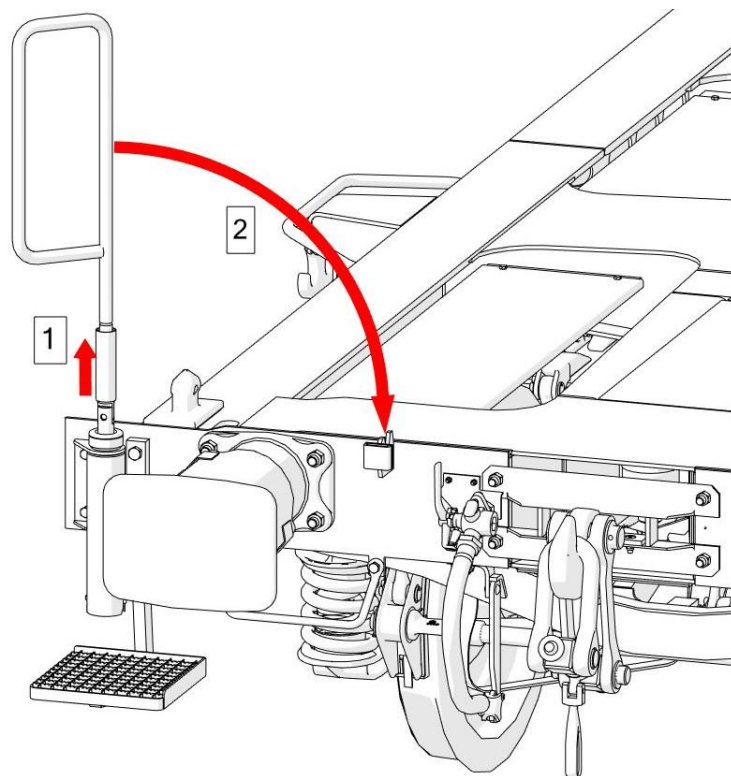

Figure 6 – Turning down the folding handle
- The folding handle must always seat in the cradle after turning down, see Fig. 6.